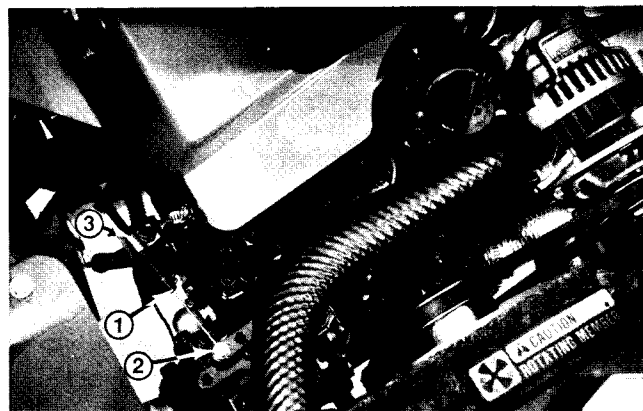

Figure 58
9. Loosen the cap screw and nut to disconnect the throttle cable from the speed control lever on the engine (Fig. 58). Loosen the clamp and remove the throttle cable.